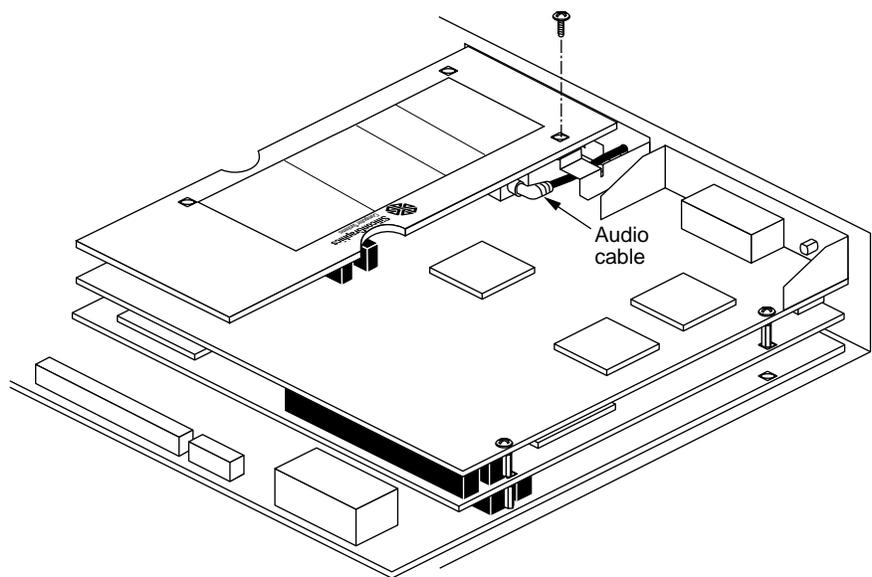

Figure 3-15 Inserting the Screw on the Presenter 1280 XZ Board
7. Secure the Presenter 1280 XZ board to the XZ graphics board, as shown in Figure 3-15.
- Insert and tighten the screw in the location shown in Figure 3-15.